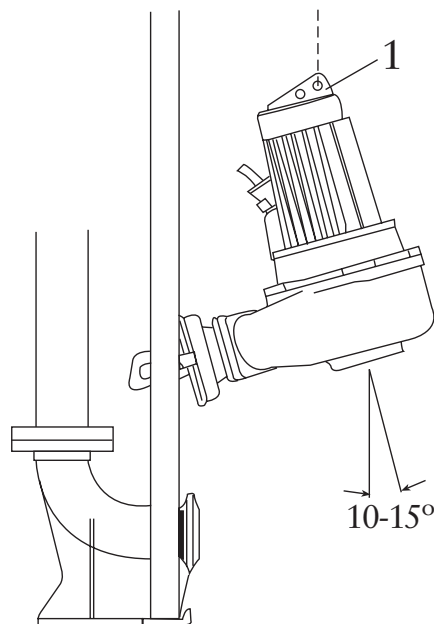

Figure 7
- The installation angle should be: 10-15° (see Figure 7). If necessary, this angle can be changed by alteration of the position of the lifting hook on the suspension bracket on top of the motor (pos. 1). (See bails in accessories.)